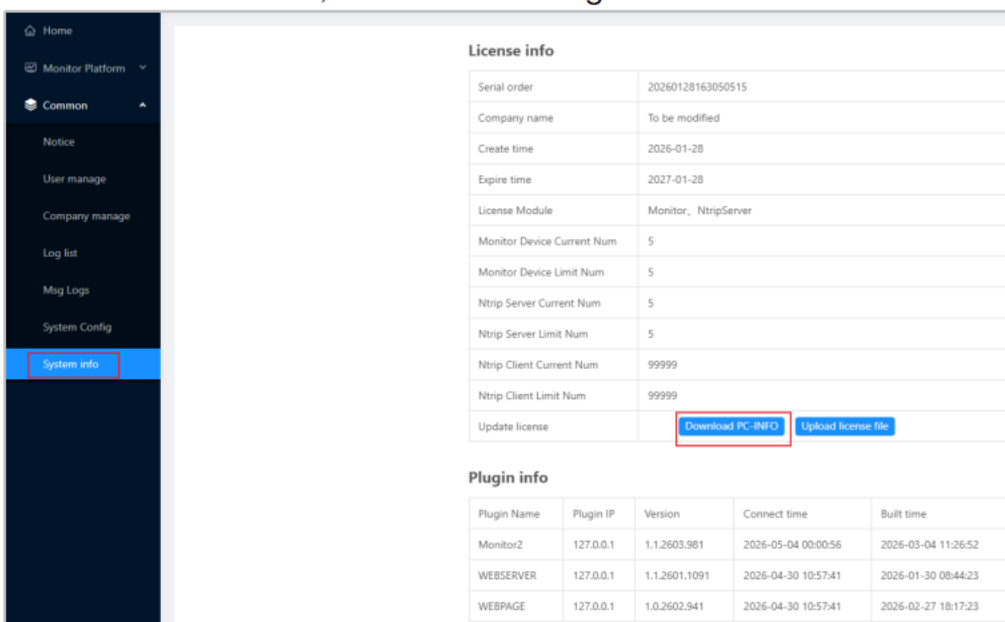

Figure 3-66
(1) License Information: To authorize the installed system, first click the **Download PC-INFO** button, as shown in Figure 3-66, to download the license request file "pc.info" and submit it to the technical support team. After receiving the license file, click **Upload license file** to complete the license authorization, as shown in the figure.